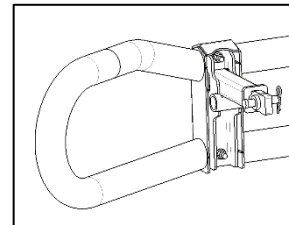

Figure 1d: Rear view of submounts
3. Install Bumper Guard onto submounts. **Center and level the bumper guard and torque hardware (Figure 1d) to 86 ft-lb.**